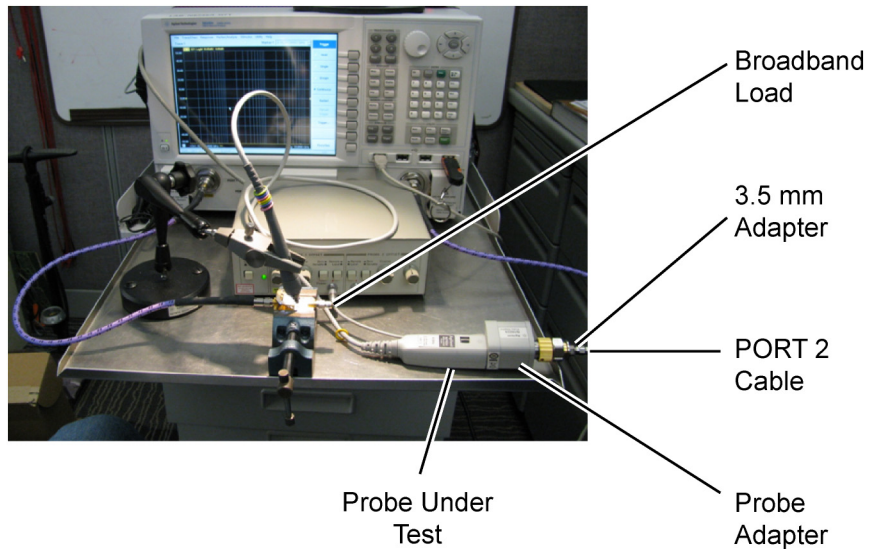

Figure 49 Measurement Setup for V_{out}
- 20 Disconnect the **PORT 2** cable from output of the PV fixture and connect the cable to the output of the probe adapter as shown in **Figure 49** on page 70.